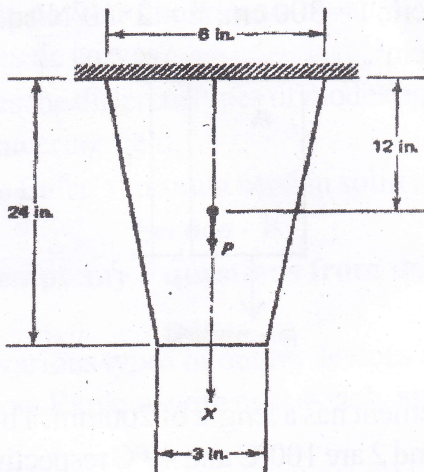

fig.2
10. A thin steel plate has a uniform thickness  $t = 1 \text{ in}$ , as shown in the fig. 2. Its elastic modulus,  $E = 30 \times 10^6 \text{ psi}$ , and weight density,  $r = 0.2836 \text{ lb/in}^3$ . The plate is subjected to a point load  $P = 100 \text{ lb}$  at its midpoint and a traction force  $T = 36 \text{ lb/ft}$ . Determine: